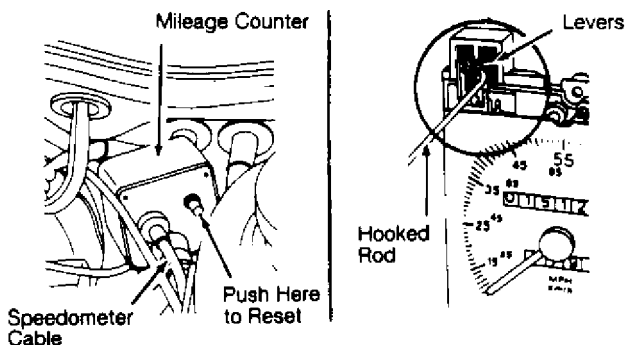

Fig. 1: Resetting Mileage Counters
1) On some Rabbit and Pickup models, remove instrument panel cover plate. Reach into opening at top left corner of speedometer and pull release arm to reset counter. See Fig. 1. Left arm resets EGR counter, right arm resets oxygen sensor.
3) On all other models, locate mileage counter (in-line with speedometer cable) and push White reset button. See Fig. 1. Ensure light is out.